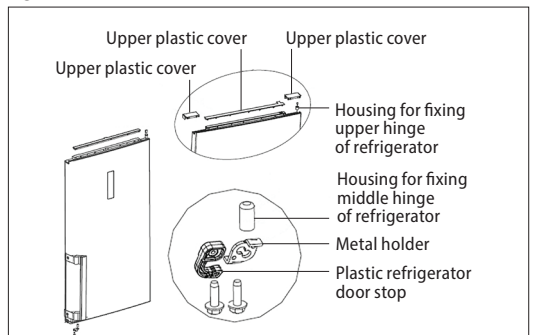

Fig. 4
7. Remove the upper plastic covers from the upper edge of the refrigerator door (Fig. 4).
8. Remove the housing for fixing the upper refrigerator hinge and place it on the other side of the door (Fig. 4). After moving the housing, place the upper plastic covers back.
9. Remove the plastic stop, the metal holder, and the housing for fixing the middle hinge of the refrigerator from the bottom edge of the refrigerator door (Fig. 4).
10. In the package with accessories, you can find the plastic stop, which, together with the metal holder and the housing, is to be installed on the other bottom edge of the refrigerator door (Fig. 4).